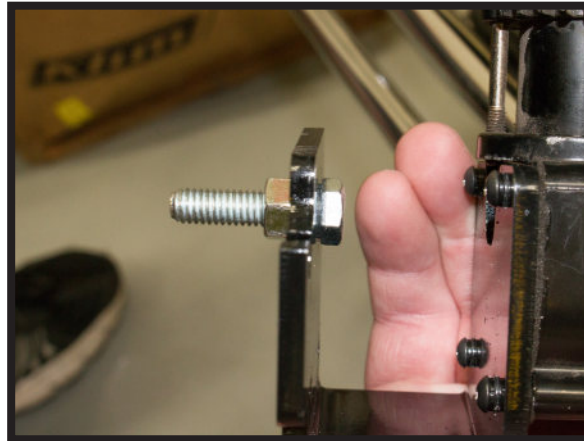

FIGURE 17
6. IF THE MOTORCYCLE IS A MODEL YEAR 2014-PRESENT GO TO STEP #8. FOR A MODEL YEAR 2009-2013 YOU WILL NEED TO INSTALL THEN TIGHTEN THE SUPPLIED HEX BOLT AND NON-LOCK NUT ONTO THE AIR COMPRESSOR BRACKET AS SHOWN BELOW. (FIGURE 17)